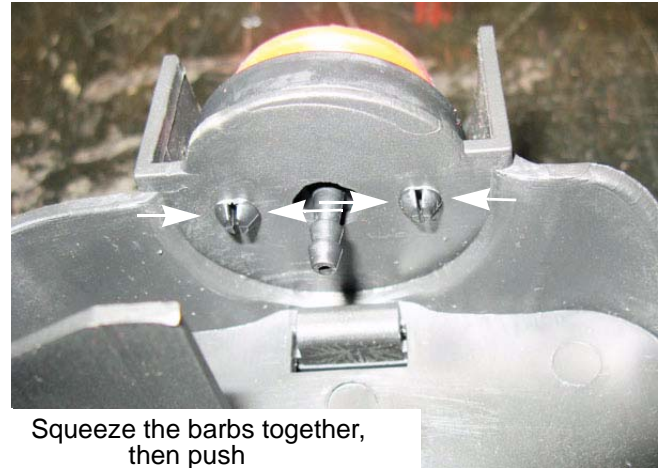

Figure 3.9
7. The primer can be removed from the air filter housing by squeezing together the two sets of barbs while pushing the primer out of the housing. See Figure 3.9.